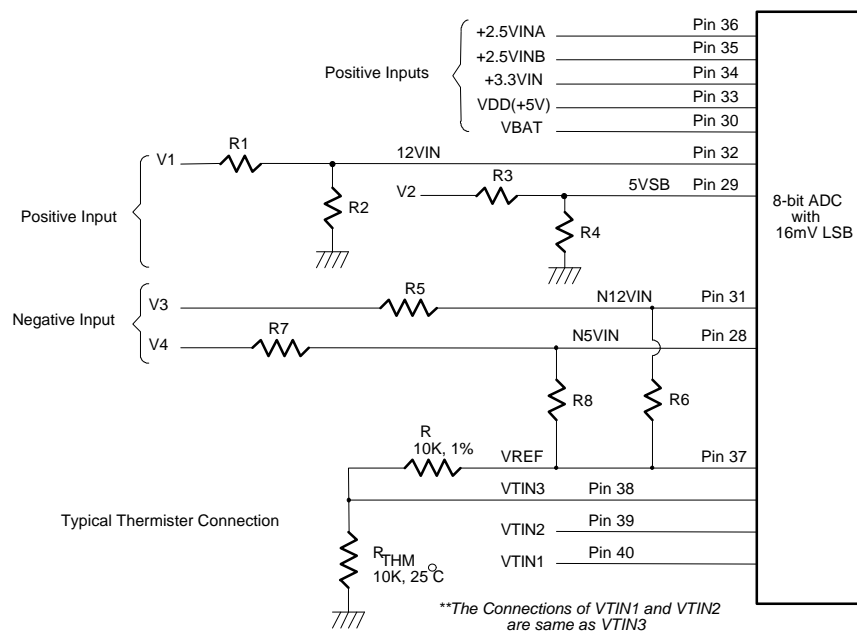

Figure 11.
The maximum input voltage of the analog pin is 4.096V because the 8-bit ADC has a 16mV LSB. Really, the application of the PC monitoring would most often be connected to power suppliers. The CPU V-core voltage ,+3.3V and battery voltage can directly connected to these analog inputs. The 5VSB and +12V inputs should be reduced a factor with external resistors so as to obtain the input range. As Figure 11 shows.
The negative voltage should be connected two series resistors and a positive voltage VREF (is equal to 3.6V). In the Figure 11, the voltage V3 and V4 are two negative voltage which they are -12V and -5V respectively. The voltage V3 is connected to two serial resistors then is connected to another terminal VREF which is positive voltage. So as that the voltage node N12VIN can be obtain a posedge voltage if the scales of the two serial resirtors are carefully selected. It is recomanded from Winbond that the scale of two serial resistors are R5=232K ohms and R6=56K ohm. the The input voltage of node -12VIN can be calculated by following equation.
The W83782D can connect three thermistors to measure three different environment temperature. The specification of thermistor should be considered to (1) β value is 3435K, (2) resistor value is 10K ohms at 25°C. In the Figure 11, the thermistor is connected by a serial resistor with 10K Ohms, then connect to $VREF$ (Pin 37).